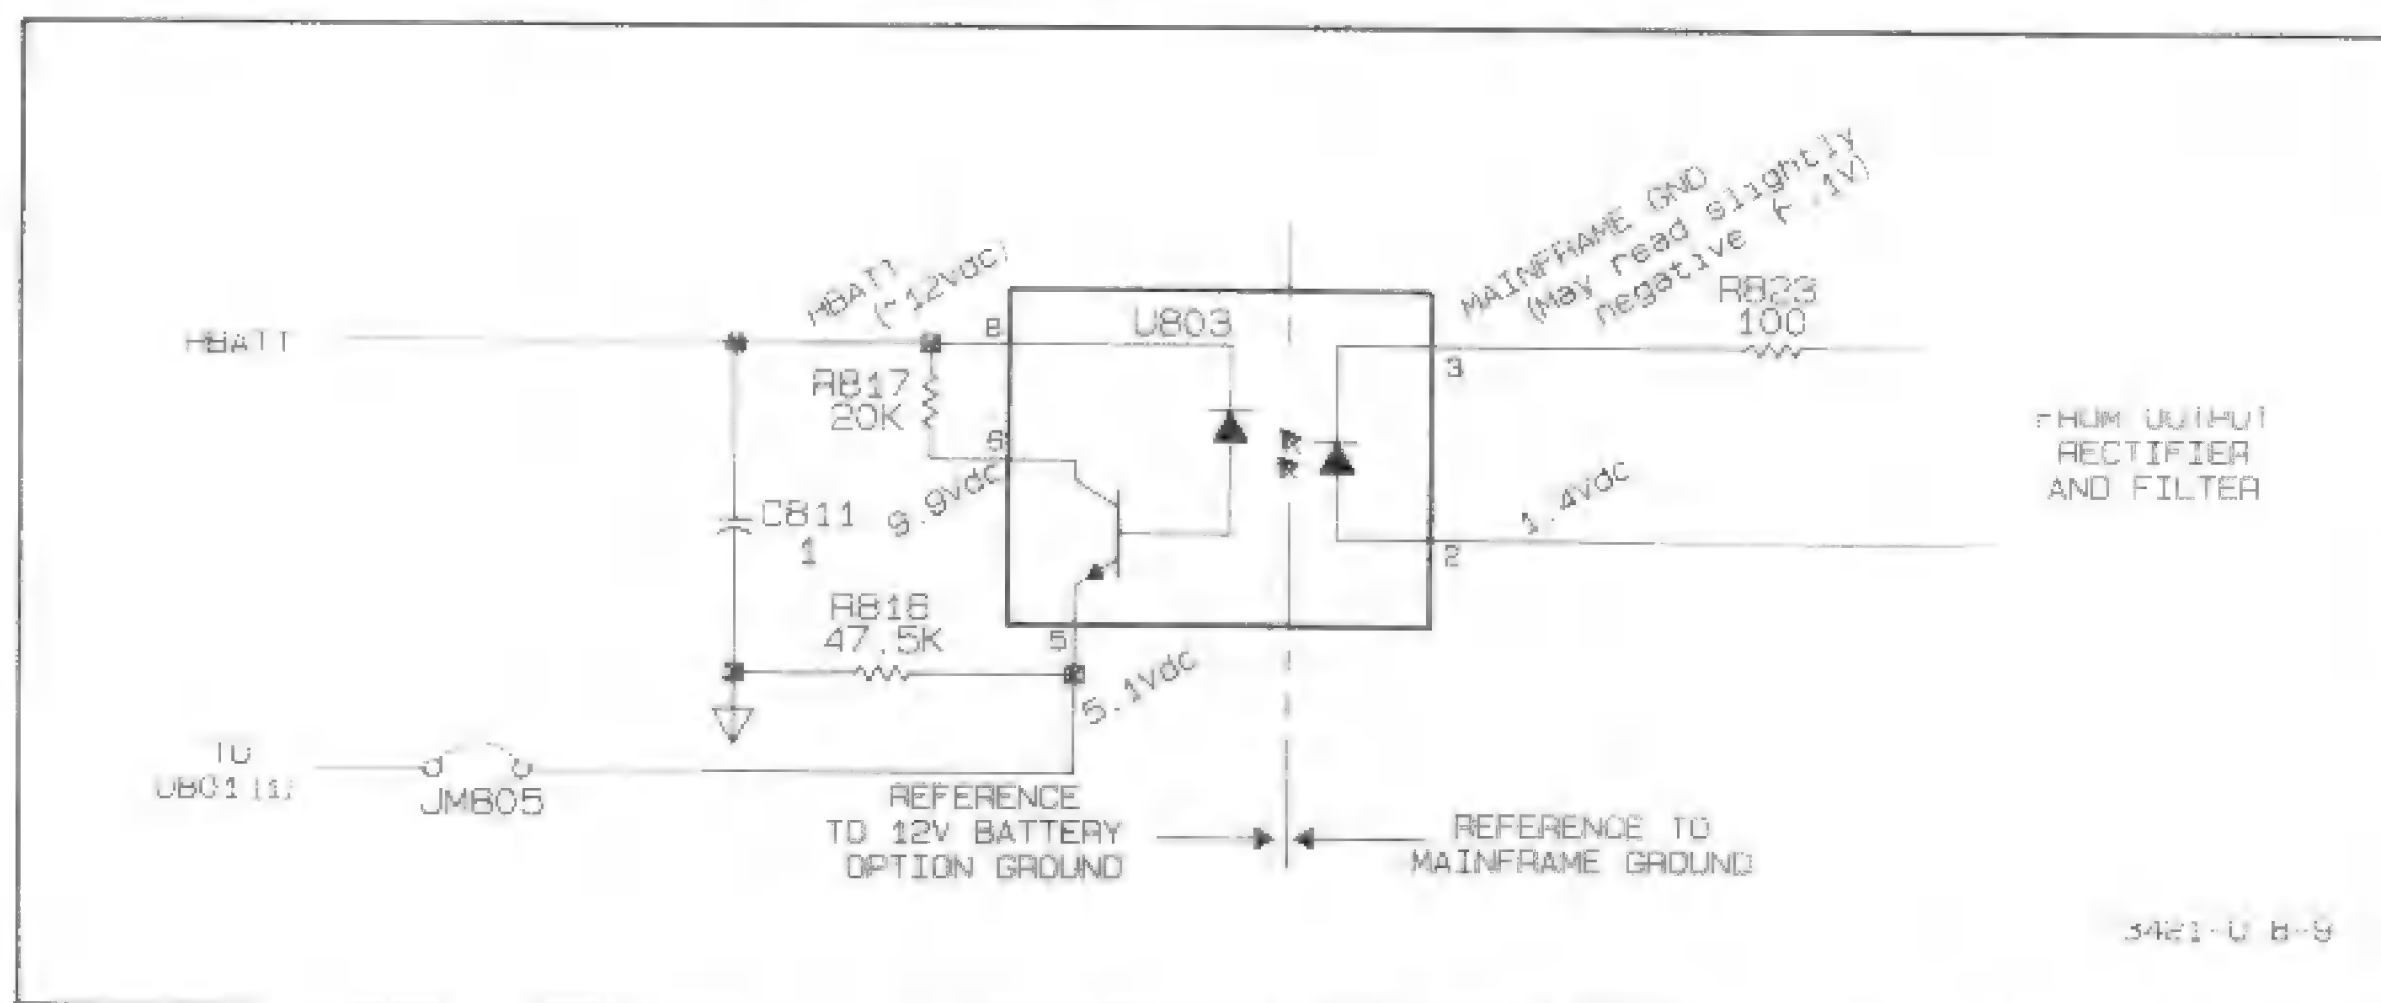

Figure 5-8-9. Output Feedback Voltages
**5-8-70. Output Feedback.** The circuit voltages for this circuitry are shown in Figure 5-8-9, and were obtained with the HP 3421A front panel switch on. The ground reference for U803 pins 2 and 3 is mainframe ground; the ground reference for all other circuit locations is the 12 Vdc Power Adapter Option ground.